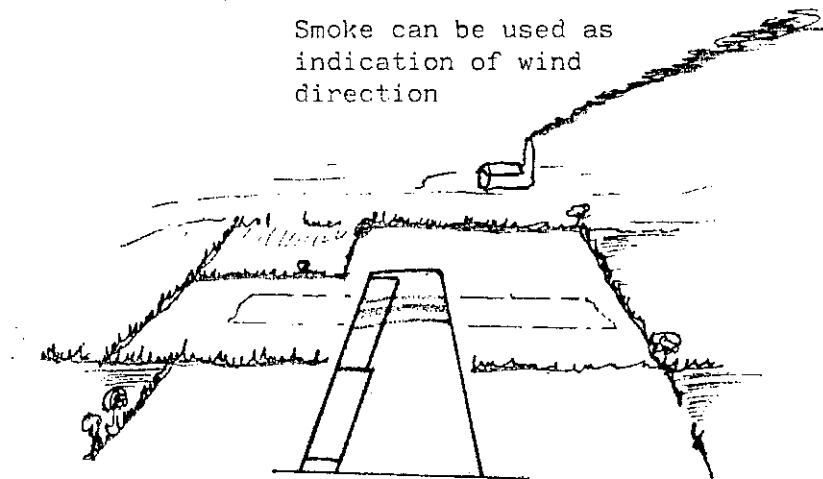

Fig 17.7 Showing approximate aspect of a suitable landing field from below 2000ft in the downwind position
- b With the aircraft heading downwind, wings level, a field which appears just under the blue wing stripes will be in approximately the correct position for normal wind conditions (Fig 17.7). If you are above 600ft agl, you could start an immediate turn towards the field to intercept a normal pattern.